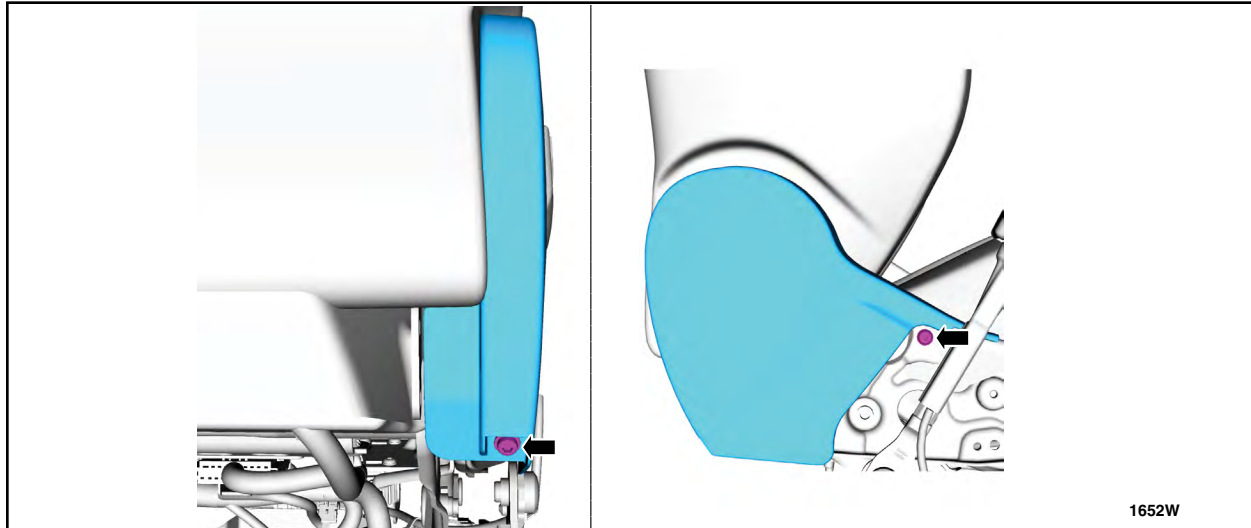

FIGURE 26
6. Remove the two screws and the inboard recline cover. See Figure 26.